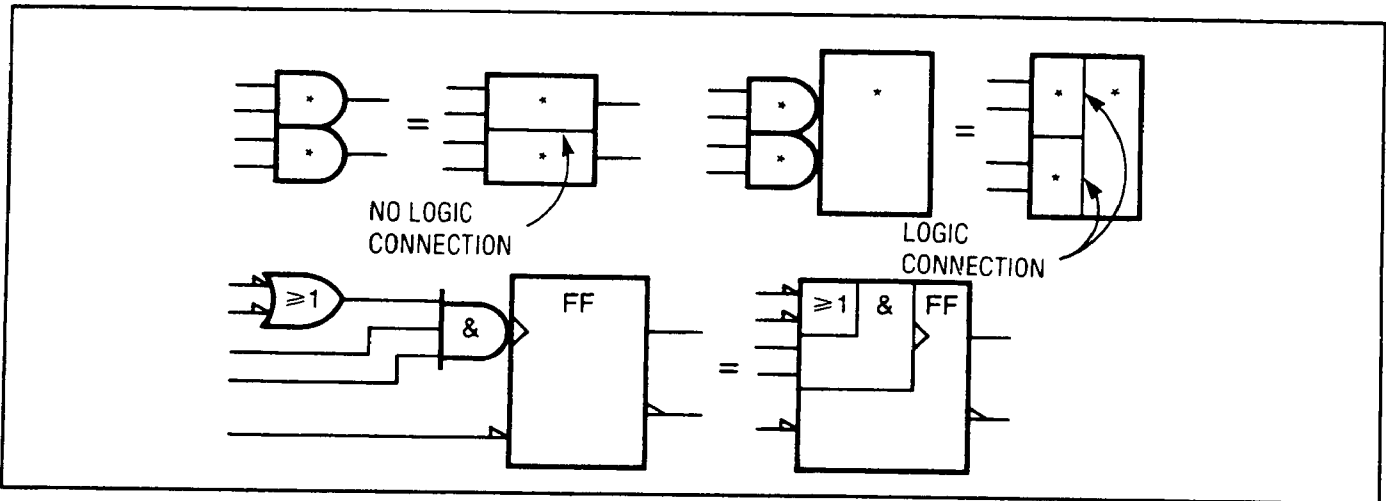

Figure 8-8. Contiguous Blocks
**Contiguous Blocks.** Two symbols may share a common boundary, parallel or perpendicular to the direction of the signal flow. Note that in the examples shown in Figure 8-8, there is generally no logic connection across a horizontal line, but there is always an implied logic connection across a vertical line. Notable exceptions to this rule are the horizontal lines beneath control blocks and between sections of shift registers and counters (dividers).